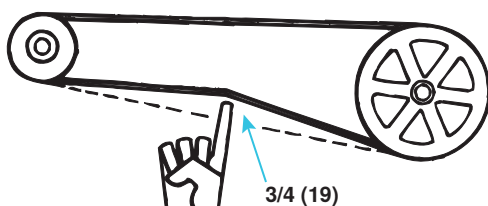

Figure 21. Checking Belt Tension
- Proper belt tension is important to the long life of the belt and motor. A loose belt will cause wear and slippage. Too much tension will cause excessive motor and blower bearing wear. Check belt tension as shown in Figure 21.
- If the belt cannot be depressed 3/4 inches (19 mm), as shown in Figure 21, adjust the belt tension as follows: